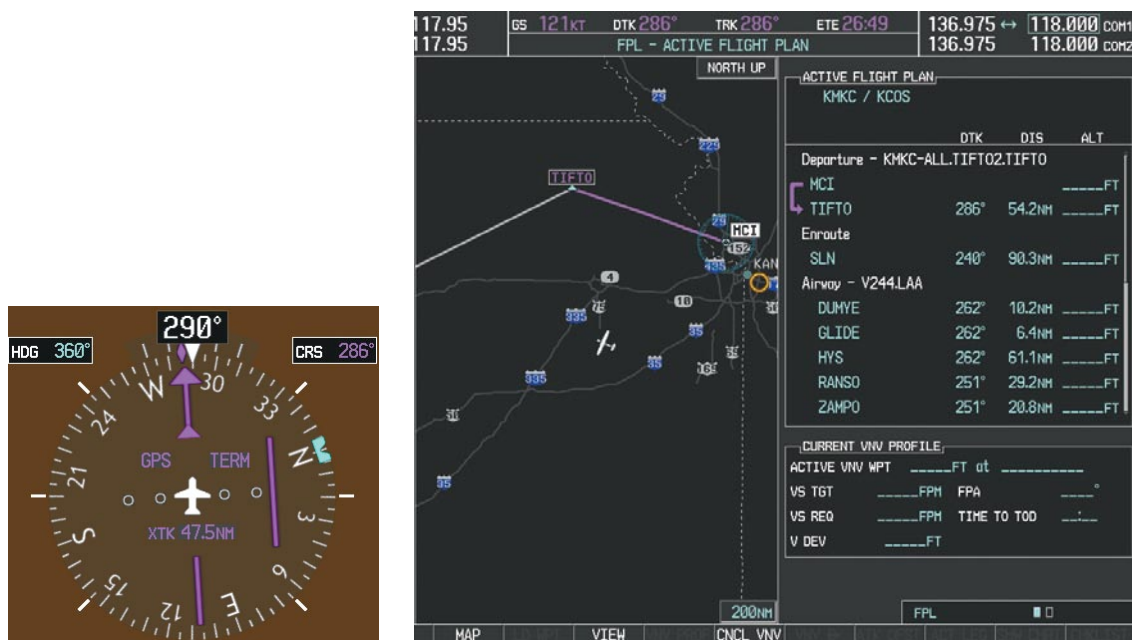

Figure 5-102 Assigned Heading of 290°
- 3) ATC now assigns routing to join V4. A heading of 290° is assigned to intercept V4. The aircraft turns to heading 290° as seen in Figure 5-102.